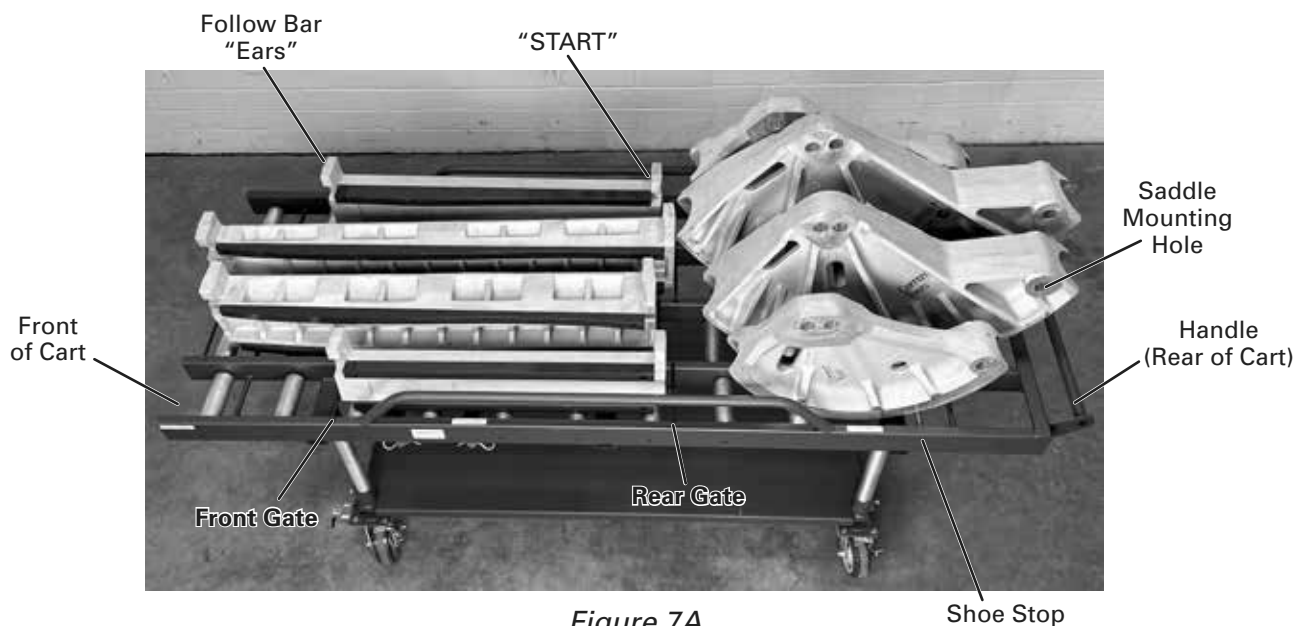

Figure 7A
3. Place the shoe in the correct row of the roller bed with the saddle mounting hole facing the rear of the cart and slide the shoe until it touches the shoe stop. **NOTE: To sit in the correct position, the shoe must touch the shoe stop.** (See Figure 7A). Return the rear gate in front of the shoe to its closed position. Next, place the corresponding follow bar on the roller bed with the “ears” of the follow bar facing upward and the end of the follow bar marked “START” facing the shoe. Roll the follow bar towards the bending shoe until it reaches the rear gate. Return the front gate to its closed position. Repeat this process for the remaining shoes and follow bars.